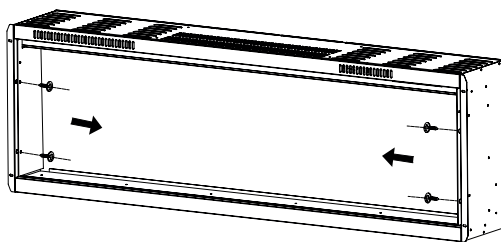

Figure. 3-1
- ① Remove the interior side panel covers from both sides of the appliance by removing the two (2) screws on each side (Fig. 3-1). Retain the screws and interior side panels for reinstallation.